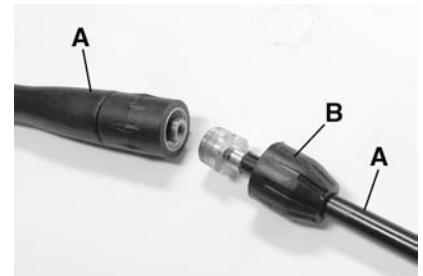

Figure 2
Assemble the 2 piece stainless steel wand (A) Fig.2. Lower the rubber piece (B) to expose the threaded fitting and screw the 2 pieces together, reposition the rubber piece. It is recommended to install Teflon tape on the threads to prevent water leakage.